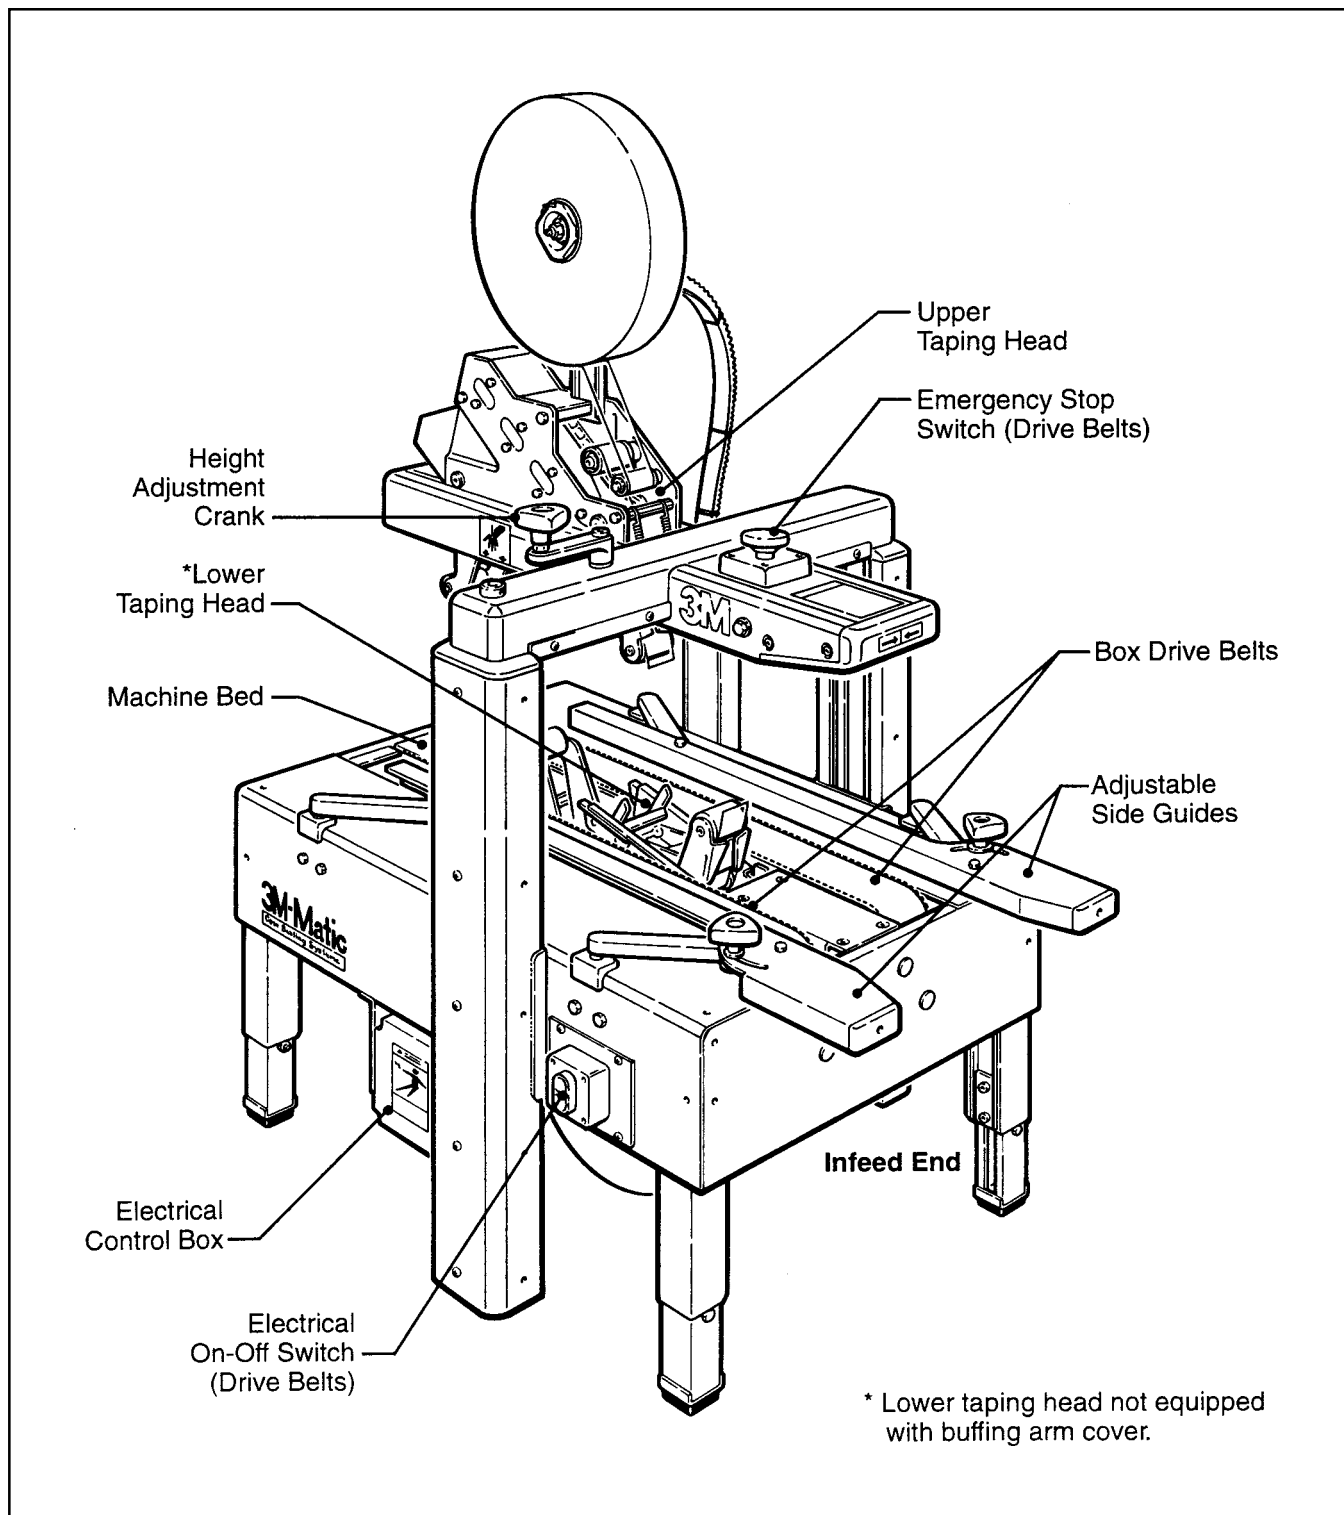

Figure 3-1 – 100a Case Sealer Components (Left Front View)
The following instructions are presented in **the order recommended** for setting up and installing the case sealer, as well as **for learning the operating functions and adjustments**. Following them step by step will result in your thorough understanding of the machine and an installation in your production line that best utilizes the many features built into the case sealer. Refer to Figure 3-1 to identify the various components of the case sealer.
The electrical "On/Off" switch on the side of the machine frame (Figure 3-1) can be relocated to the opposite side of the machine if desired. The electrical control box (Figure 3-1) contains the machine circuit breaker and drive motor contactor. A 2.4 meter [8 foot] standard three conductor power cord with plug is provided at the back of the electrical control box for 115 Volt, 60 Hz., 20 Amp electrical service. The receptacle providing this service shall be properly grounded. Before the power cord is plugged into 115 Volt, 60 Hz outlet make sure that all packaging materials and tools are removed from the machine. **Do not plug electrical cord into outlet until ready to run machine.**
Refer to Figure 3-1 below to acquaint yourself with the various components and controls of the case sealer. Also see Figures 3-1 and 3-2 in Section II for taping head components.
8. Both the upper and lower taping heads utilize extremely sharp tape cut-off knives. The knife is located under the orange knife guard which has the "WARNING – SHARP KNIFE" label. Before loading tape, refer to Figures 3-1 and 3-2 in Section II to identify the knife location. Keep hands out of these areas except as necessary to service the taping heads.